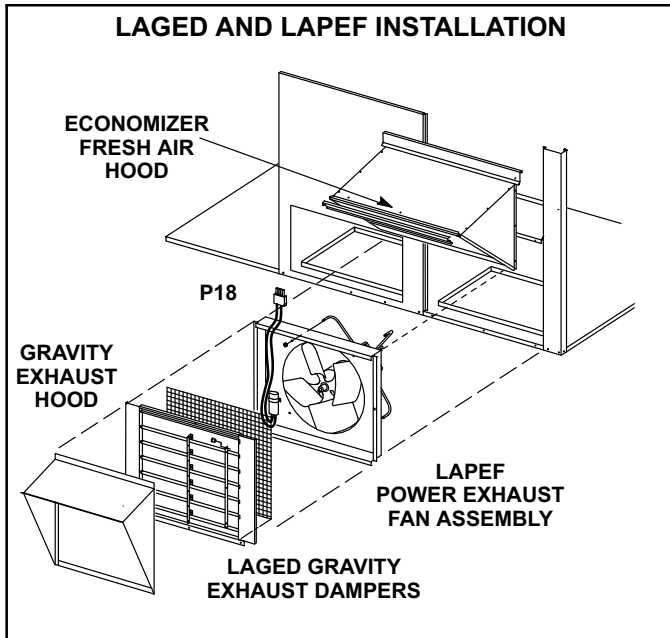

FIGURE 23
LAGED(H)10/15 dampers (figure 23) available for TCA090/150 units are used in downflow and LAGEDH are used in horizontal air discharge applications. LAGED(H) gravity exhaust dampers are installed in the return air plenum. The dampers must be used any time an economizer or power exhaust fans are applied to TCA series units.
LAPEF10/15 available for TCA090/150 units are power exhaust fans used in downflow applications only. LAPEF fans require optional down-flow gravity exhaust dampers and LA-REMD economizers. Power exhaust fans provide exhaust air pressure relief and also run when return air dampers are closed and supply air blowers are operating. Figure 23 shows location of the LAPEF. See installation instructions for more detail.